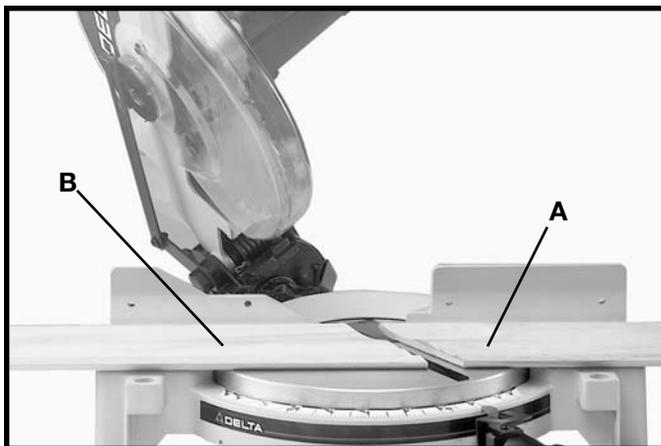

Fig. 39
3. Place the crown moulding on the table with the **CEILING EDGE** of the moulding against the fence, and make the cut, as shown in Fig. 39. **NOTE:** The piece of crown moulding used for the outside corner will always be on the right hand side of the blade, as shown at (A) Fig. 39. The piece of crown moulding used for the inside corner will always be on the left hand side of the blade, as shown at (B) Fig. 39.